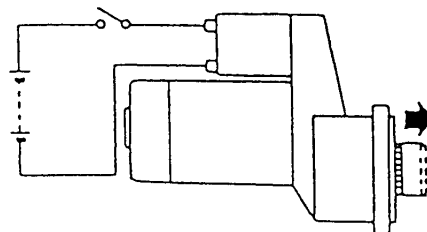

Figure 11-33
4. Turn the switch ON and measure the pinion moving distance L in the thrust direction (**Figure 11-33**). Perform this test within 10 seconds. See *Starter Motor Specifications* on page 11-7 for the service limit.